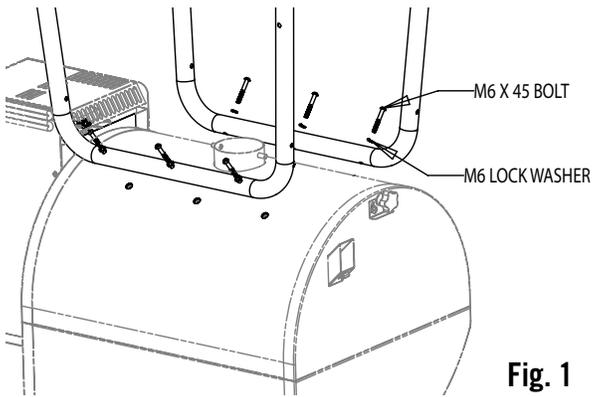

Fig. 1
1. Assemble the legs as shown in Fig. 1 using Qty (6) M6 x 45 Bolts and Qty (6) Lock washers. Note that the longer leg must go closest to the hopper. Finger tighten hardware.